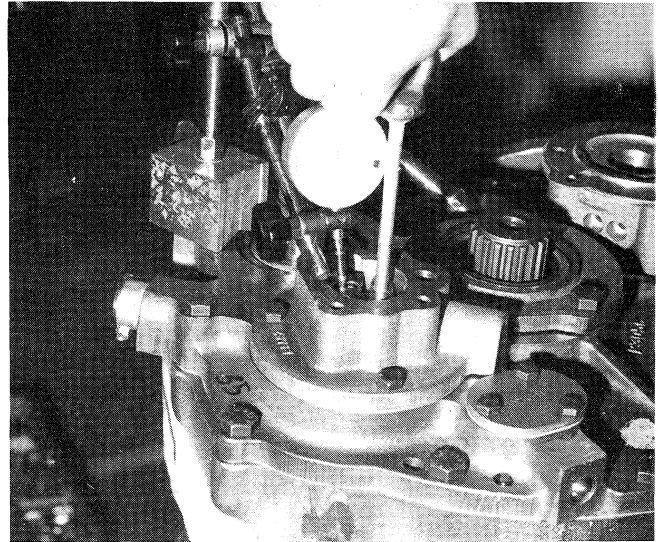

Figure 9-4. Applying pushing force while checking reverse clutch shaft end play.
6. Install an eyebolt into the threaded hole in the rear end of the reverse clutch shaft. See Figure 9-4.